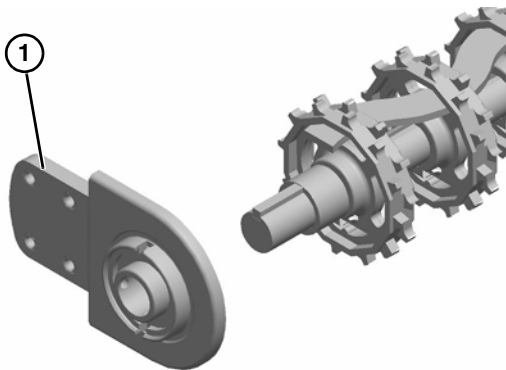

Figure 39
7. Slide the head plate with bearing (Figure 39, item 1) off the shaft.